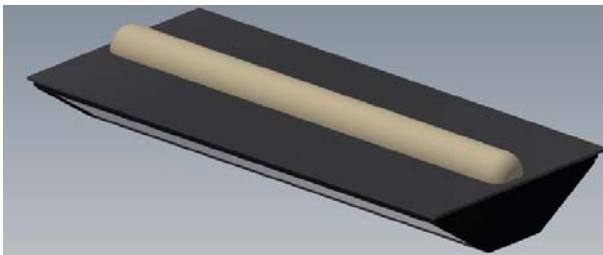

Figure 9 - Bottom of Reflector with 3/8" Wide Bead of Liquid Nails Applied
2. Place an approximately 3/8" wide bead of Liquid Nails in the center of the butyl pad running end to end along the long axis (Figure 9). Before using the adhesive, ensure that the ambient temperature and weather conditions are within the specifications recommended by the adhesive manufacturer. Be sure to follow all of the manufacturer's recommended procedures and guidelines for handling, and applying the adhesive.
In the case where the reflector is missing or damaged and requires replacement, follow this procedure: **1)** Pry the old reflector from the marker pocket. **2)** Scrape the old adhesive from the marker pocket. Use only non-powered hand tools on the marker. **3)** Place an approximately 3/8" wide bead of Liquid Nails in the center of the butyl pad running end to end along the long axis (Figure 9). Before using the adhesive, ensure that the ambient temperature and weather conditions are within the specifications recommended by the adhesive manufacturer. Follow all of the manufacturer's recommended procedures and guidelines for handling, and applying the adhesive. **4)** Place the reflector into the marker pocket and apply foot pressure (approximately 150 lbs) for 3 to 5 seconds. The Liquid Nails adhesive should flow out around the edges of the reflector as an indicator that the adhesive completely covers the entire bottom of the reflector. If any excess adhesive gets onto the reflector lens, wipe the lens clean using a moist cloth.